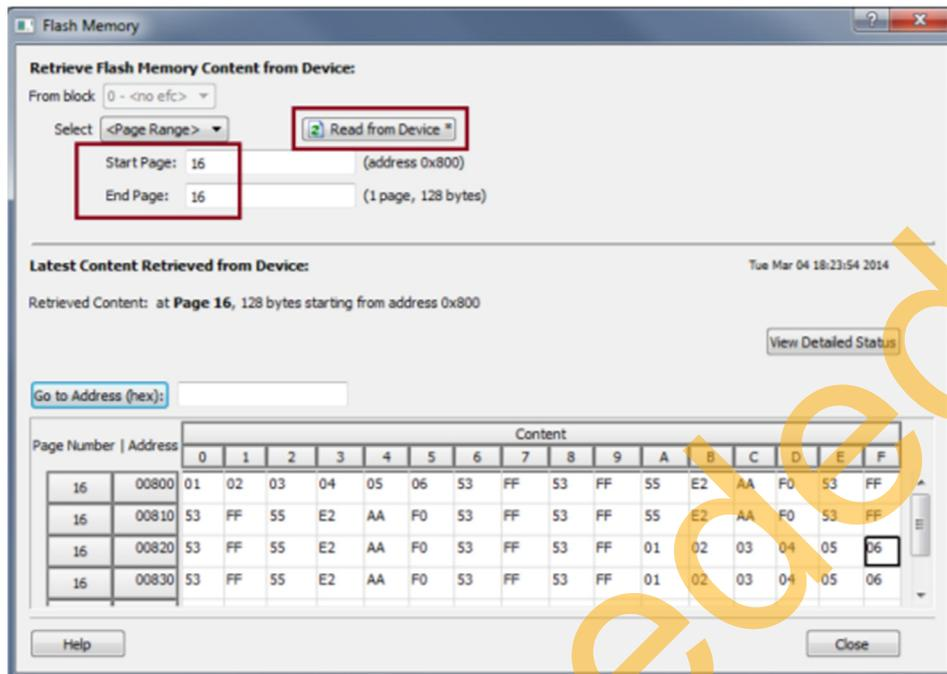

Figure 23 • Flash Memory (eNVM) Content Read from the Device
3. Click **View Flash Memory Content** to retrieve the eNVM content from the device using the SmartDebug window as shown in Figure 23. The **Flash Memory** window is displayed.
- Click **Read from Device** as shown in Figure 23.